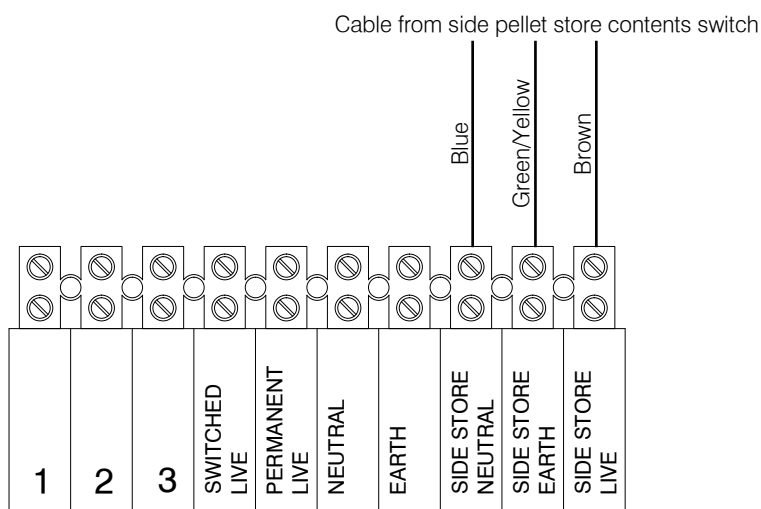

Figure 10-12: Pellet side store electrical connection diagram
5. Connect the cable to the terminal block as follows (Refer to Figure 10-12):